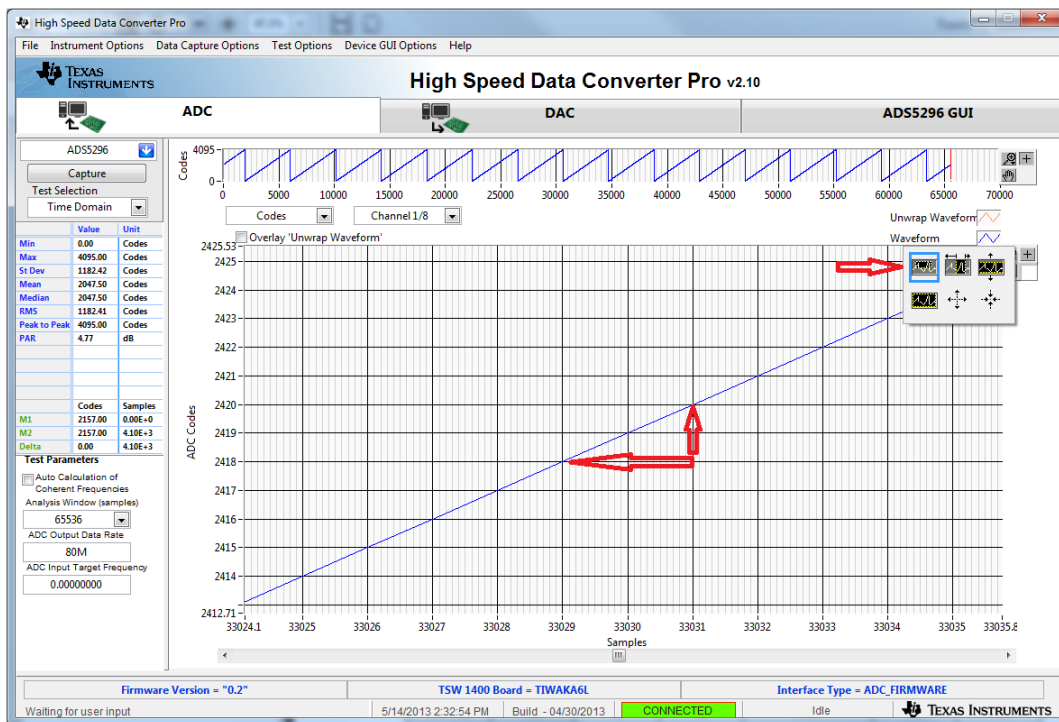

Figure 35. Zoom on RAMP Capture
- Zooming into the waveform, as shown in Figure 35, is recommended to ensure that the RAMP waveform increments 1 ADC code for each subsequent sample.